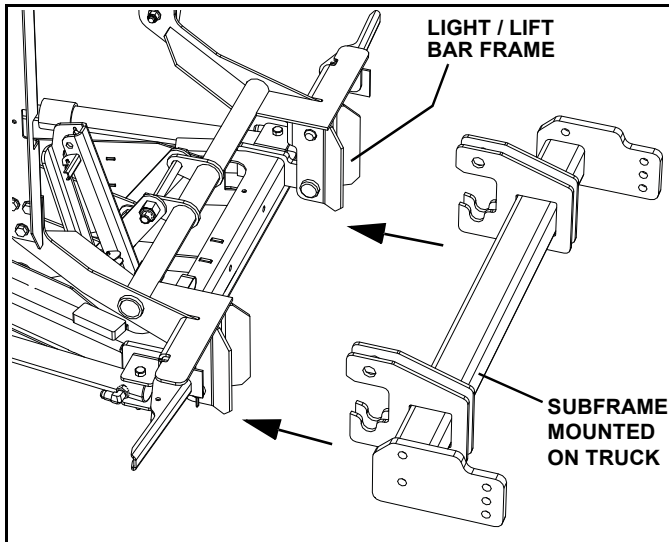

Figure 1-16
1. Drive truck into plow. Align light/lift bar frame outside of subframe lugs. Pins should fit inside slots cut into subframe lugs. (See Figure 1-16).